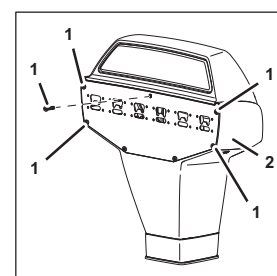

Fig. 26
1. Remove the fastening bolts (Fig. 26/1) of the front panel (Fig. 26/2).
21. Attach the front panel (Fig. 26/2) using the fastening bolts (Fig. 26/1).